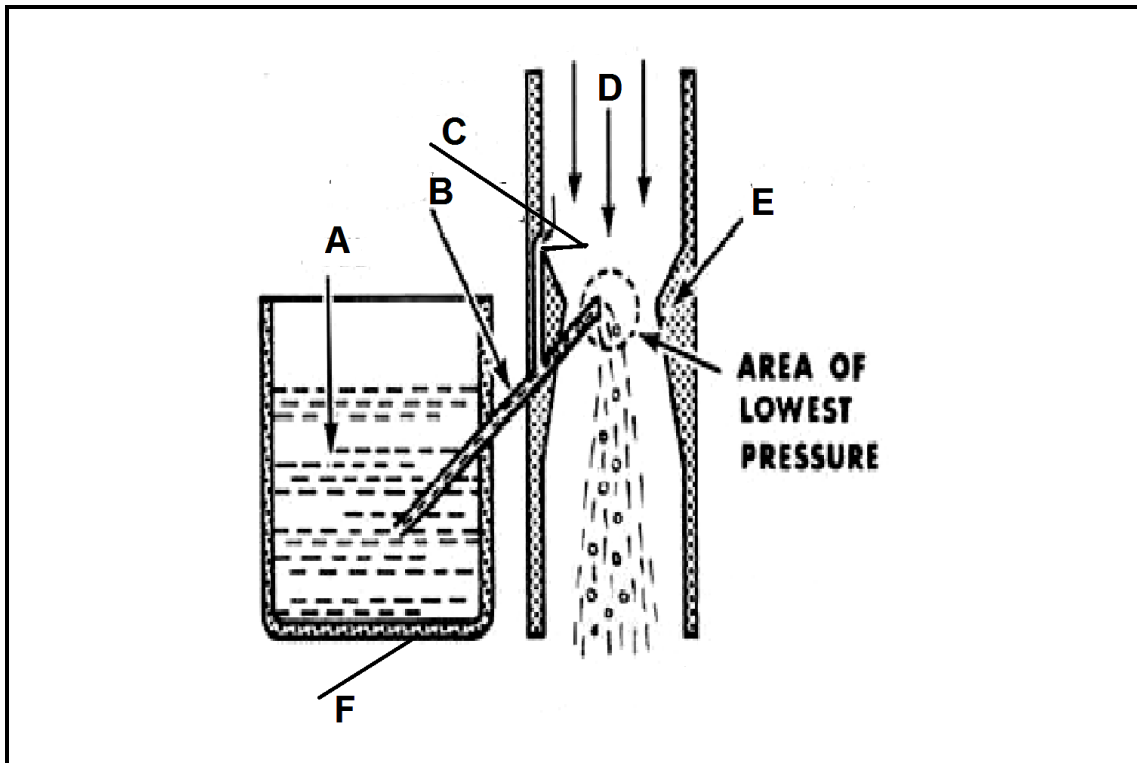

FIGURE 2
2.2 FIGURE 2 shows a carburettor.